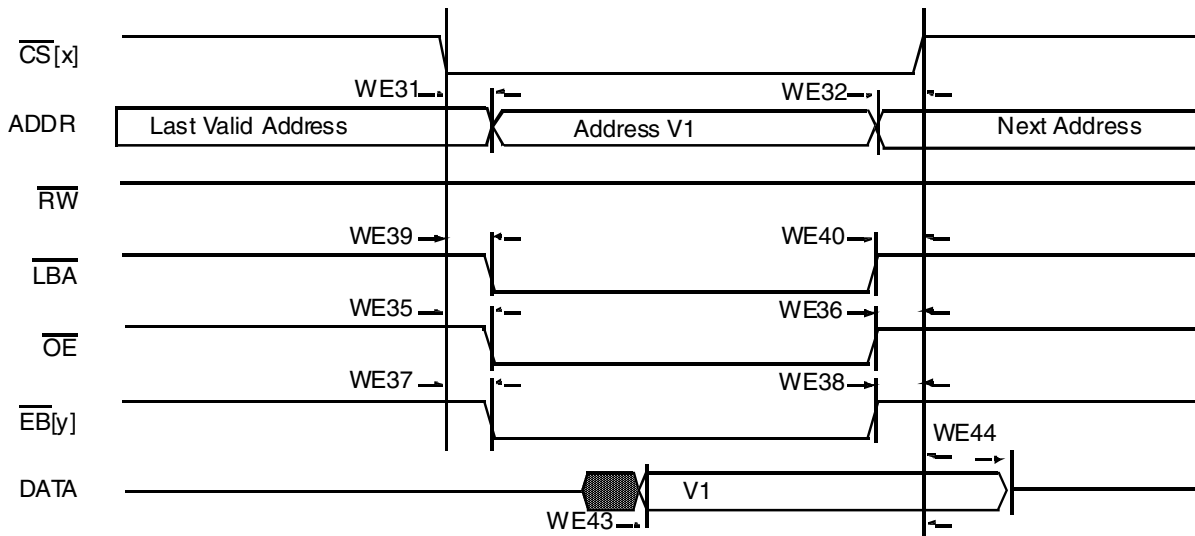
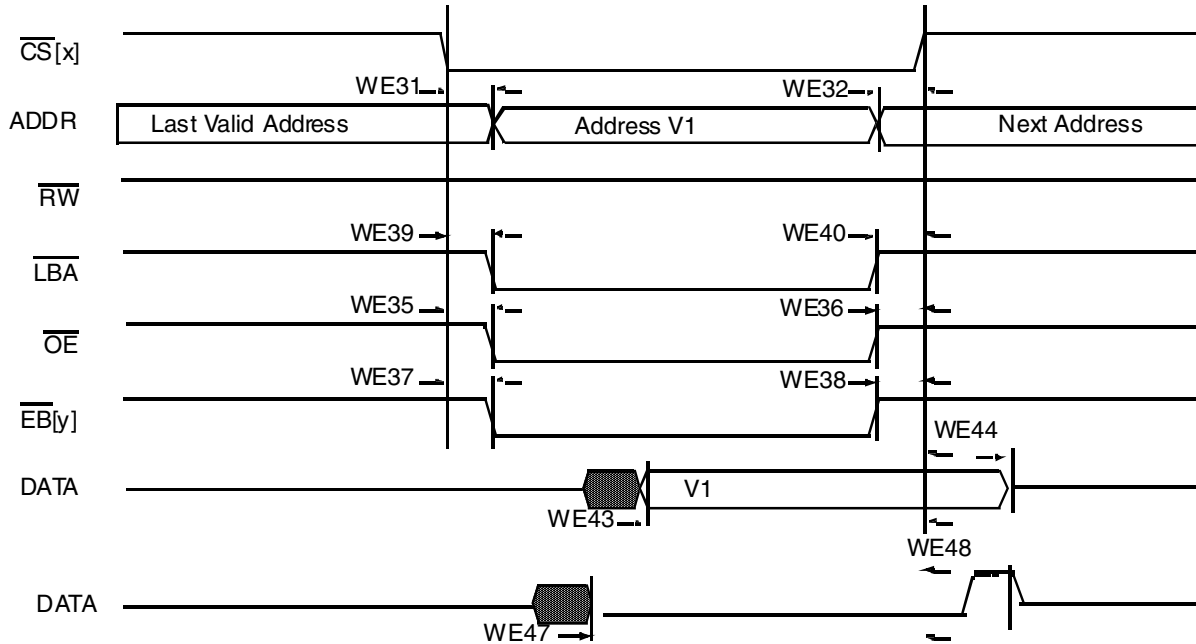

Figure 22. Asynchronous Memory Read Access
Figure 26. DTACK Read Access
Figure 22 through Figure 26, and Table 32 help to determine timing parameters relative chip select (CS) state for asynchronous and DTACK WEIM accesses with corresponding WEIM bit fields and the timing parameters mentioned above.